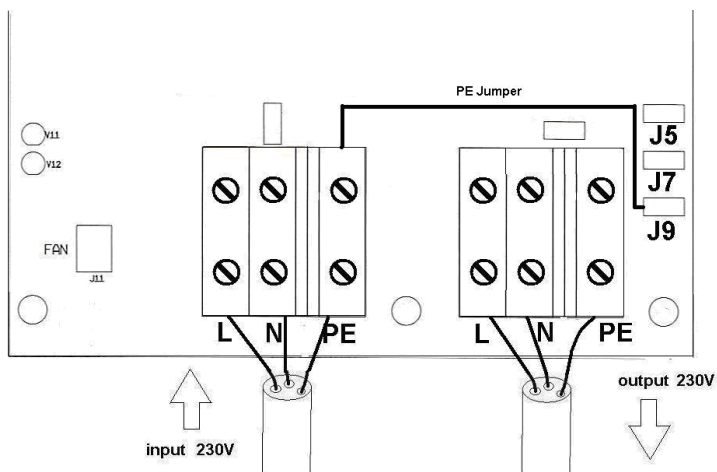

Figure 2: Input earth connection
2.2 Input earth connection (fig. 2)
- If the boat is on shore (winter period or maintenance), the PE conductor in the boat must be connected directly to the input PE, for safety reasons. This is achieved by connecting a PE jumper coming from the input PE terminal to male push-on connector J9 (jumper shown in black in fig. 2). This jumper is provided with the transformer.